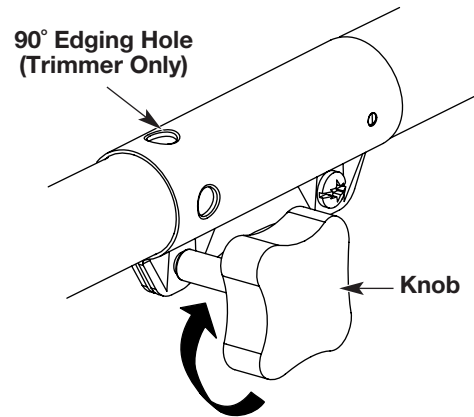

Fig. 25
1. Turn the knob counterclockwise to loosen (Fig. 25).
1. Turn knob counterclockwise to loosen (Fig. 25).
3. Turn the knob clockwise to tighten (Fig. 25).
For edging (when using the line head cutting attachment with EZ-Link™ models), lock the release button of the cutting attachment into the **90° edging hole** (Fig. 25).